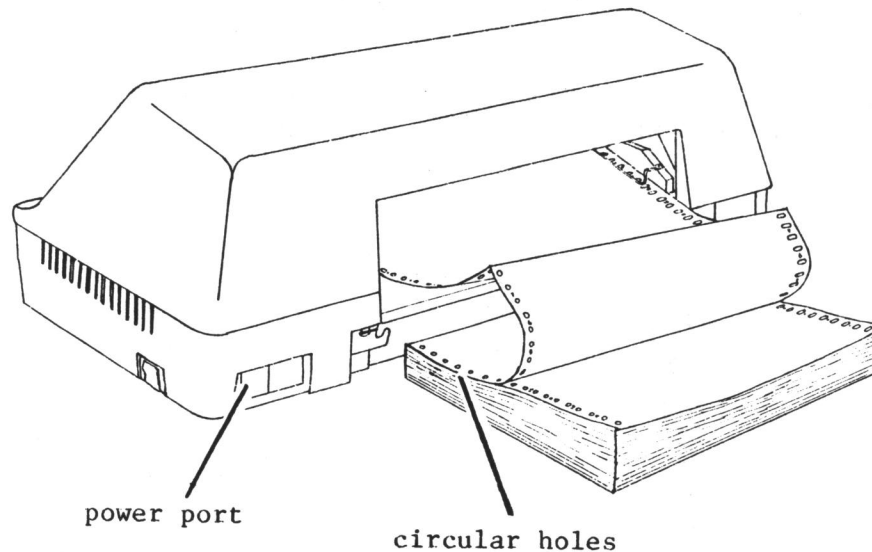

Figure 1-17
2. Set the fanfold paper behind the plotter so that the circular holes are next to the power port and the numbers on the paper are visible (see Figure 1-17).